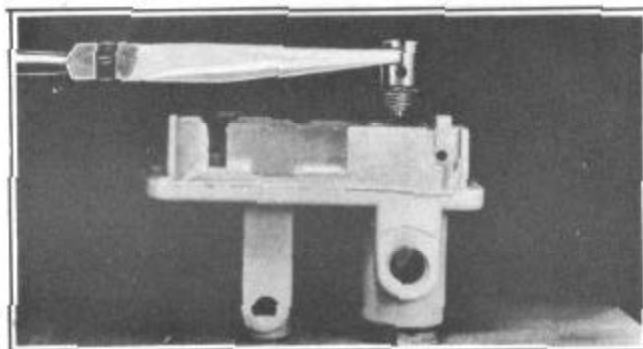

FIGURE 23
4. Install needle seat and gasket assembly, Figure 23. Check for wear. If either the needle or seat shows wear, replace both.